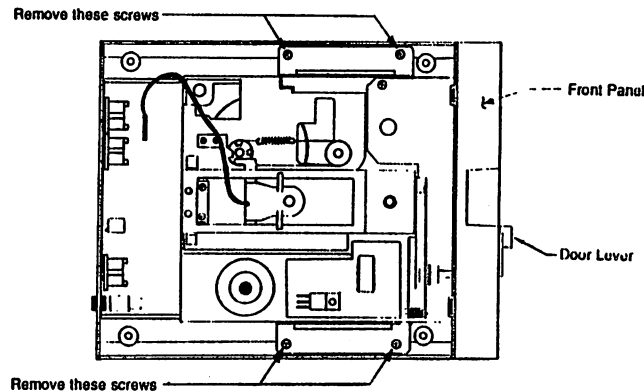

Figure 1: DRIVE MECHANISM REMOVAL
5. Remove the four screws holding the drive mechanism to the base of the 1541-II as shown in Figure 1.
6. Pull the drive door lever (see Figure 1) off its shaft. Note: the door lever may be a tight fit on the shaft - do not be discouraged if it resists removal at first. Be careful not to break the plastic door lever while removing it from the shaft.
7. Remove the 1541-II front panel (see Figure 1) from the front of the drive and place it to one side. Note: a short cable connects the front panel to the disk drive circuit board. It is not necessary to remove this cable in order to remove the front panel.